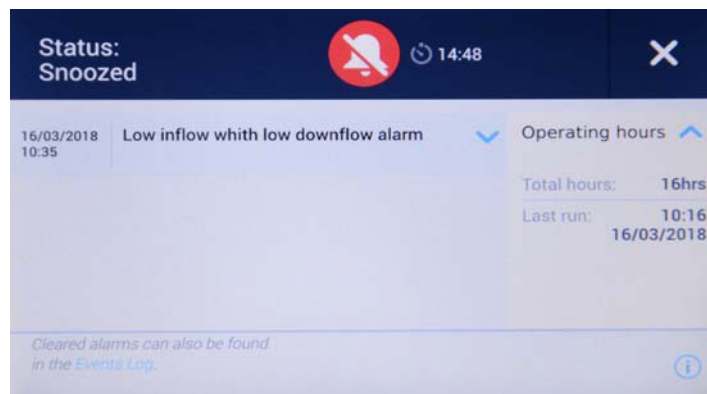

Figure 56 Health Status Alarm Screen
Additionally, you will be taken directly to the Health Status Danger screen with its alarm list shown in Figure 56.
4. Tap the red Health Status Alarm icon  to display the Health Status Alarm screen shown in Figure 56 and review the alarm list.